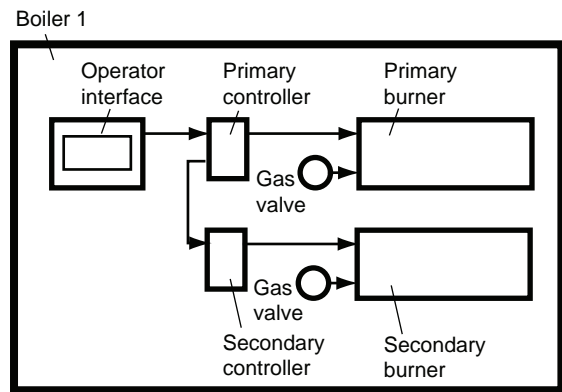
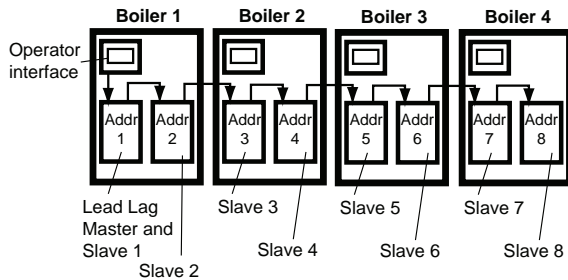

Fig. 1 – Control Arrangement in a Single-Boiler Installation
Fig. 2 – Lead/Lag Arrangement in a Multiple-Boiler Installation
- Each boiler has two controllers and two burners, as shown in Fig. 1. A single Operator Interface is used to communicate with both controllers.
On a multiple-boiler installation, each of the individual boilers is still set up as shown in Fig. 1 above. The controller/burner pairs on all of the boilers are arranged in a “daisy chain.” Up to four boilers, with up to eight controller/burner pairs, can be connected in this way. See Fig. 2.